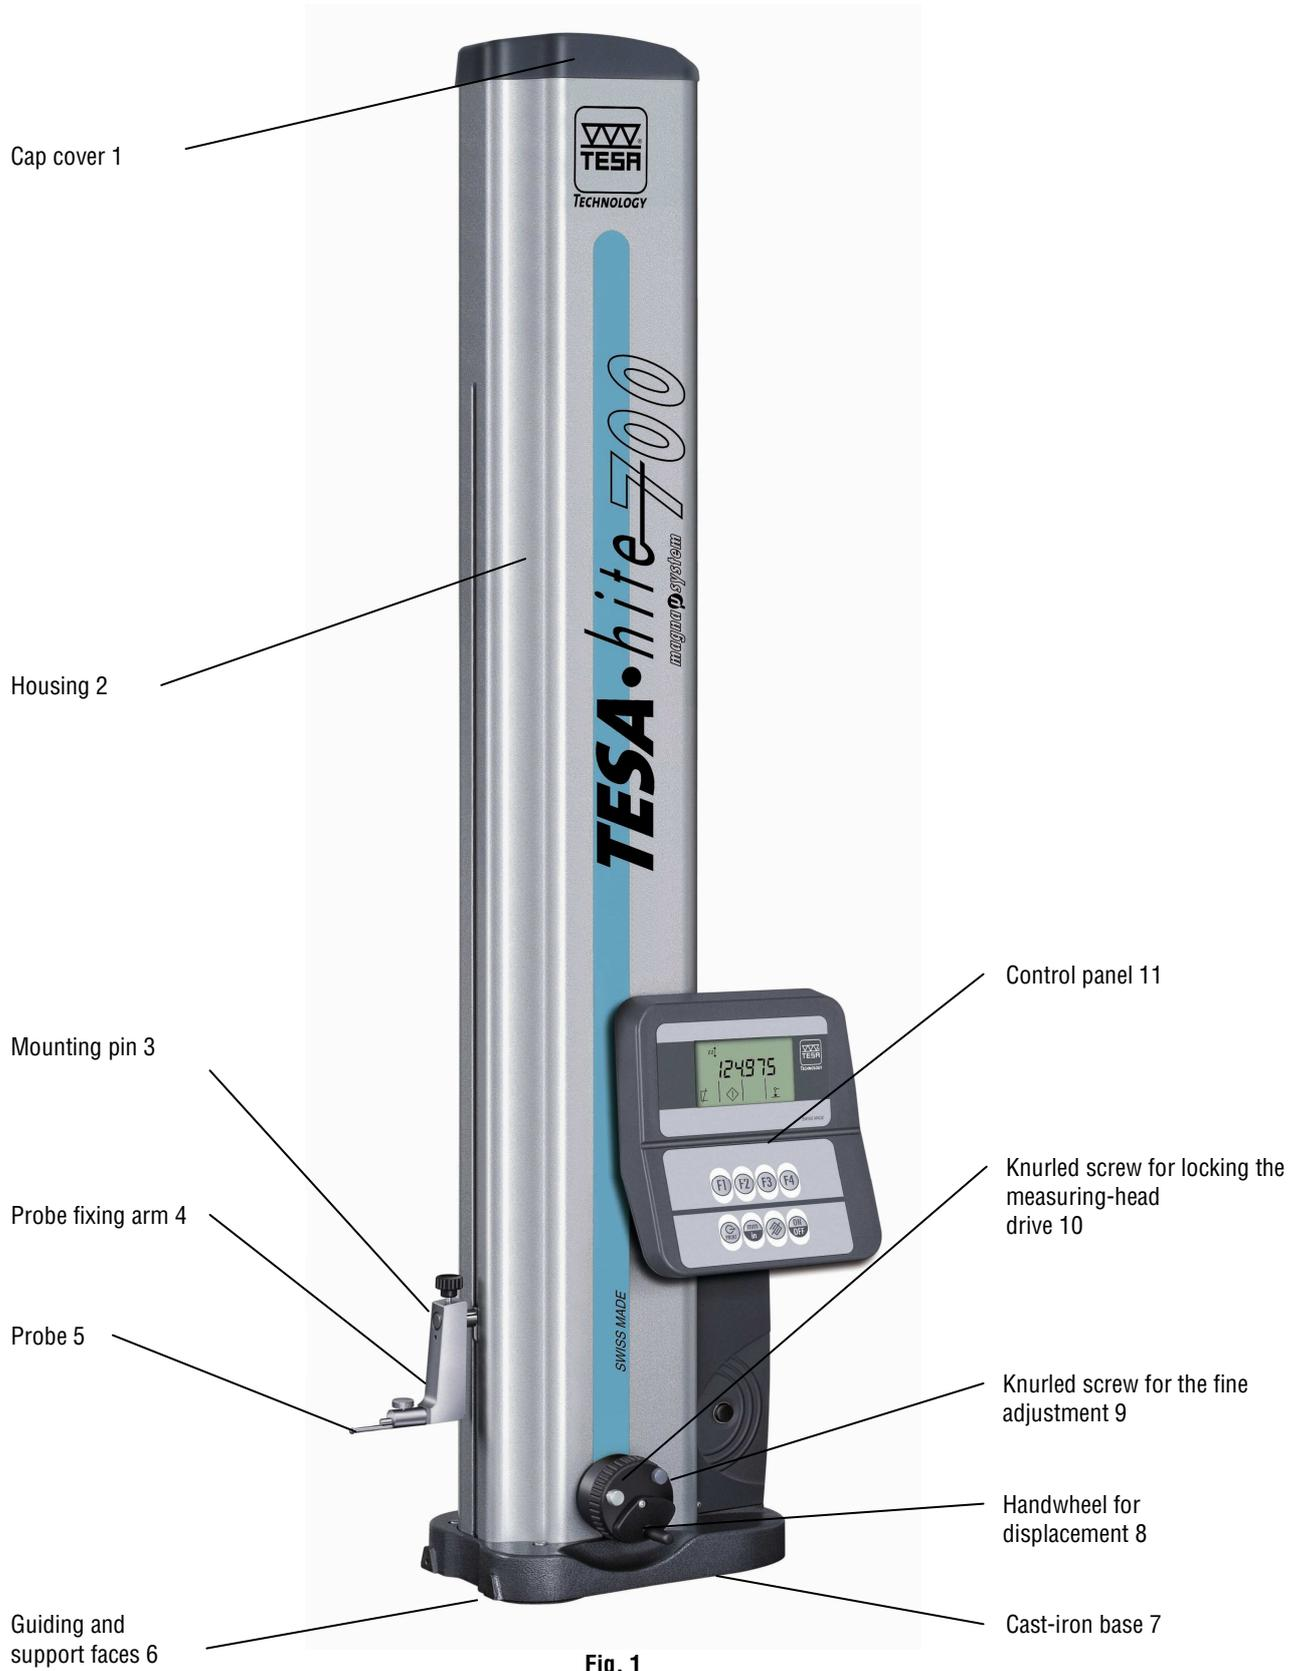

Fig. 1
Before fitting the standard accessories, release the measuring carriage by unscrewing the light grey knurled screw (10) Fig. 1 on the hand wheel.
The base is chemically nickel-plated in order to make it very resistant to corrosion. Its lower face, which has been machined to ensure that it is rigorously flat, guarantee the stability of the TESA-Hite Magna 400 / 700. The lugs 6 (Fig. 1) are designed especially for supporting the TESA-Hite Magna 400 / 700 against a parallel rule or for guiding it along such a rule, for example.
The rigid vertical column is perpendicular to the base, to which it is permanently fixed. A measuring head slides on the guide and the movement of the head is recorded by the magnetic measuring system magnasystem (TESA patent). The measuring head can be moved in infinitesimal increments by the fine-adjustment system, for example when using fine probes or measuring small bores. The knurled screw 9 (Fig. 1) is used to lock the measuring-head movement that is thus left free for scanning. However, if necessary, the head itself can also be locked by using the built-in system.